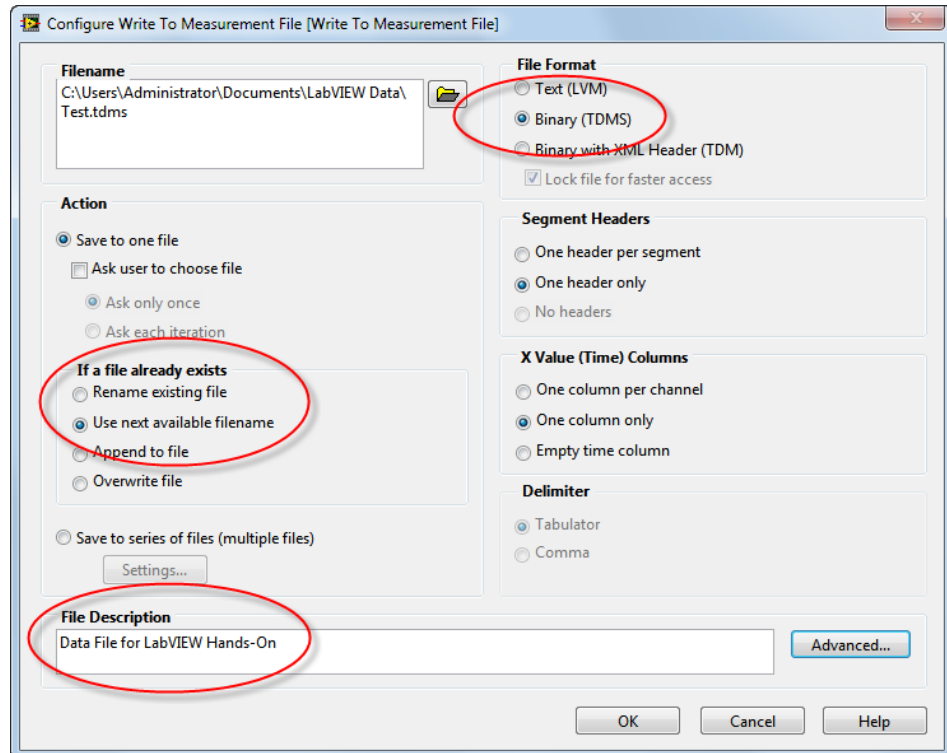

Figure 18. The Write to Measurement File Express VI provides maximum ease of use but, like all Express VIs, sacrifices some flexibility.
- f. Ensure that the dialog is configured similar to the settings in Figure 18.